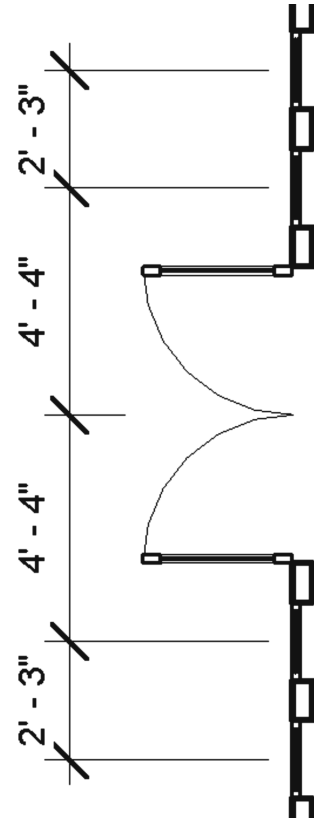

FIGURE 3-5.7 Sidelights added
12. On the West side of the atrium, insert the four borrowed lights as shown in Figure 3-5.7; do not add the dimensions.